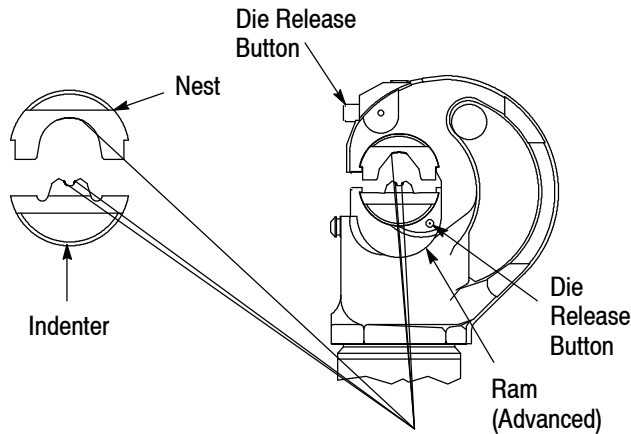

Figure 3
**3.1. Die Installation (Figure 3)**
2. Slide the nest into place in “C”-head. See Figure 3.
6. Slide the indenter into position in the ram. See Figure 3.
**3.2. Die Removal (Figure 3)**